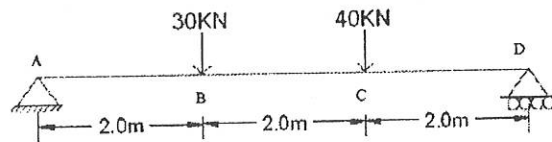

Fig. 11(a)
11. (a) For the beam shown in Fig. 11(a) find the deflection at C and slope at D. Take  $I = 40 \times 10^7 \text{ mm}^4$ ,  $E = 200 \text{ GPa}$ .